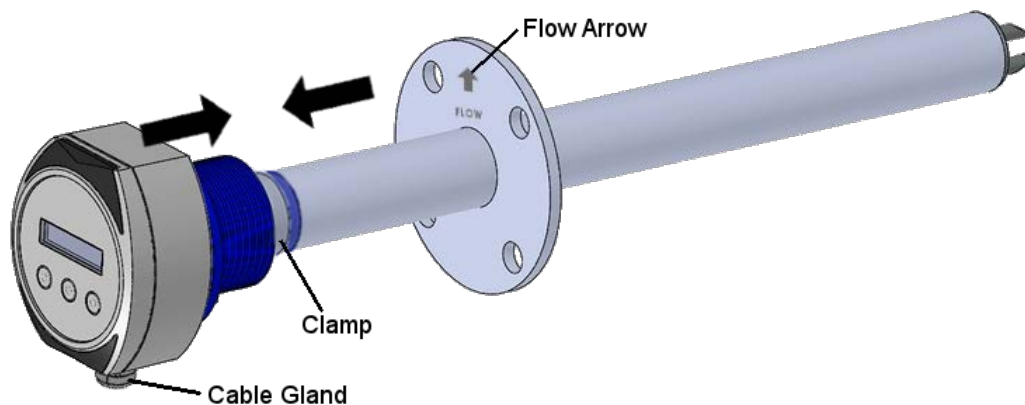

Figure 10 *Fit sensor head to Probe Body*
5. With the clamp fitted over the sensor head shoulder carefully slide the head onto the probe; refer to Figure 10. Ensuring the probe is inserted fully.